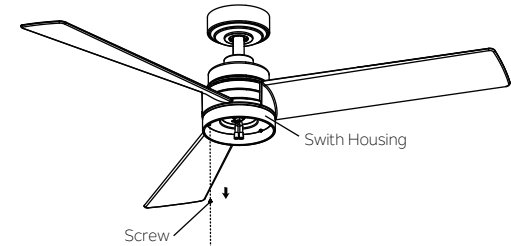

**Fig. 18**
**Step 2.** Place the two slot holes on the switch housing over the 2 screws previously loosened from the mounting plate. Rotate the switch housing until it locks in place at the narrow end of the key holes. Secure by tightening the 2 screws previously loosened and the one previously removed. (Fig. 18)